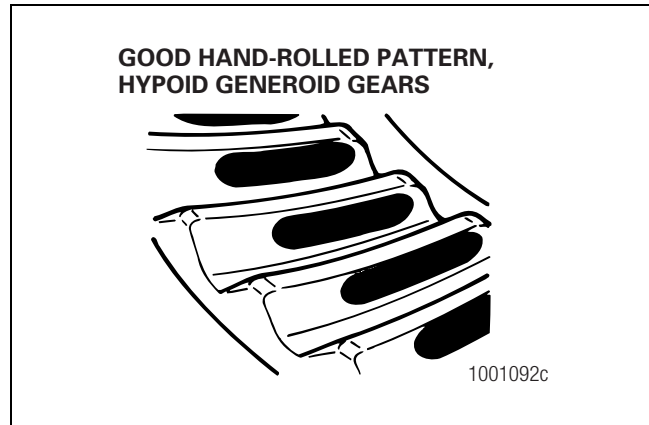
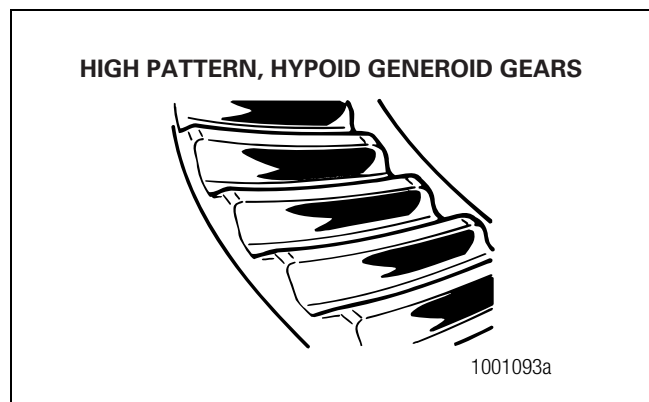

Figure 5.65
Figure 5.66
4. Look at the contact patterns on the ring gear teeth. Compare the patterns to Figure 5.65, Figure 5.66 and Figure 5.67.
The location of good hand-rolled contact patterns for new conventional and generoid gear sets is toward the toe of the gear tooth and in the center between the top and bottom of the tooth. Figure 5.65.